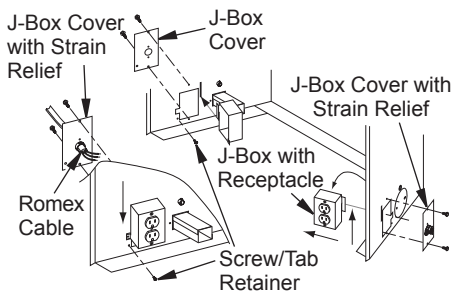

Figure 35 - Relocating Junction Box Receptacle and Electrical Supply Connection
1. Remove 2 screws and outer cover with strain relief bushing on right side of cabinet (see Figure 35).
8. With junction box cover removed, pull the end of 3-wire Romex supply line through universal strain relief bushing on cover (see Figure 35).